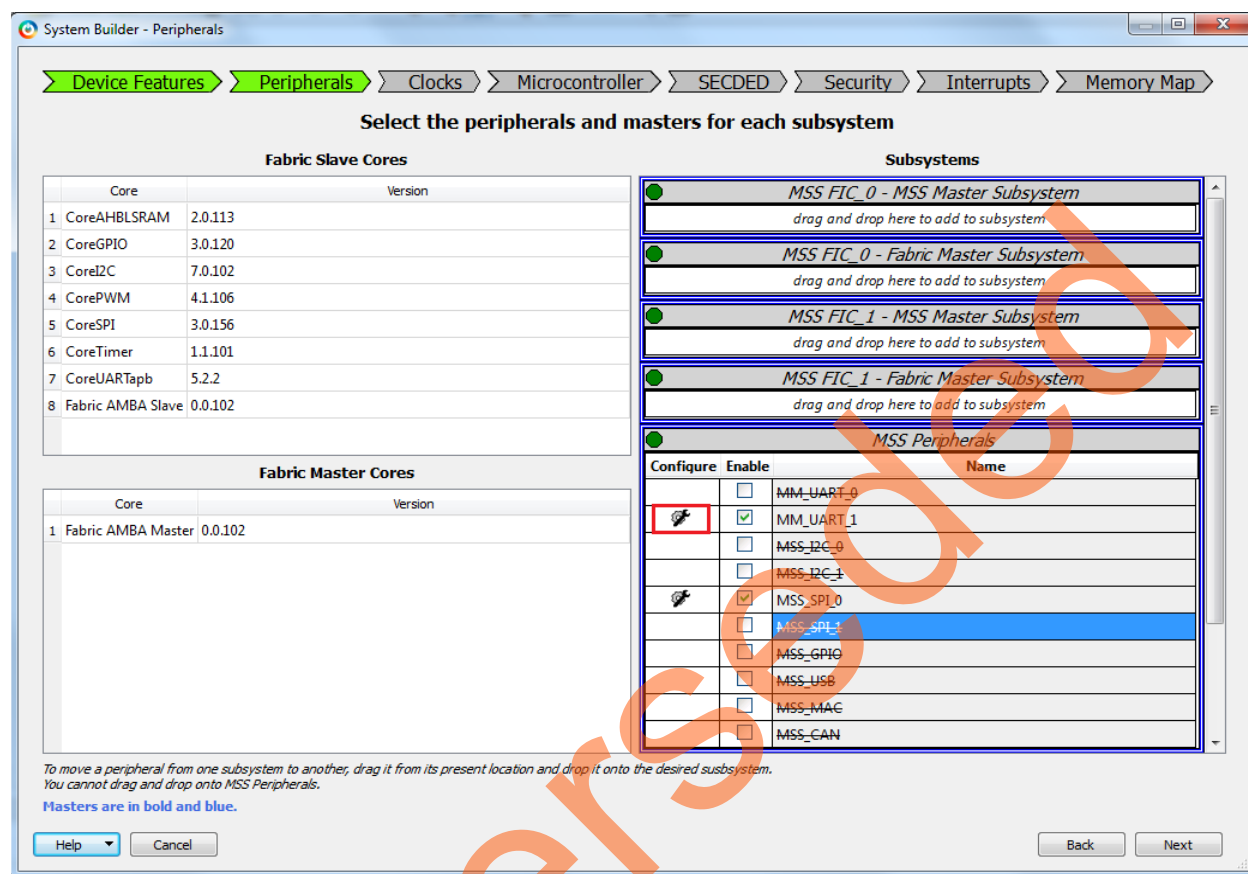

Figure 8 • System Builder – Peripherals Page
11. Configure **MMUART_1** for Fabric by clicking on the **MM_UART_1** configurator highlighted as shown in Figure 8.